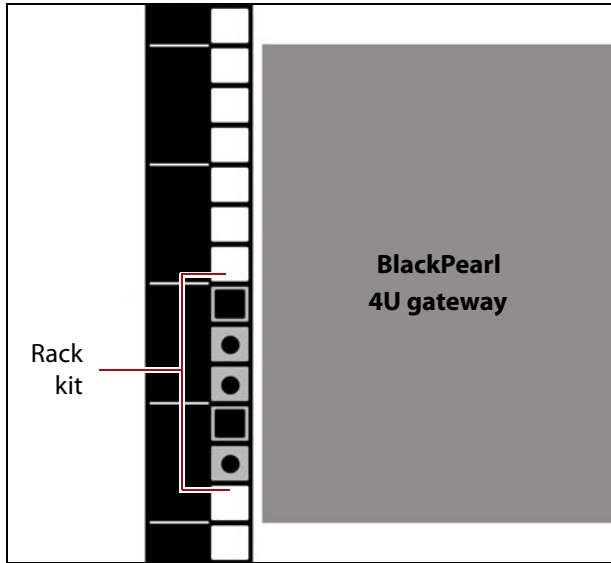
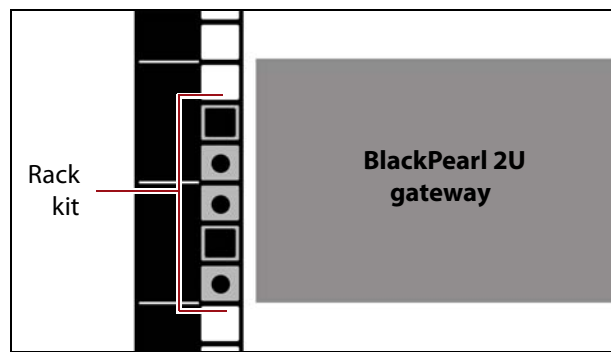

Figure 6 Relationship between the rack kit position and the BlackPearl 4U chassis.
Figure 7 Relationship between the rack kit position and the BlackPearl 2U chassis.
1. Determine the position of the rack mount kit in the rack. Figure 6 and Figure 7 show the relationship of the rack kit position in the rack and the resulting position of the chassis.